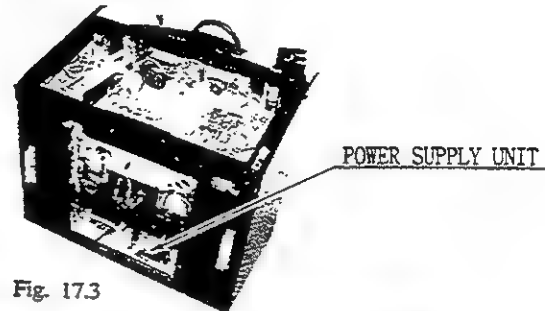

Fig. 17.3
- ② By referring to Section 6, remove the Front Cabi from the PTV (Fig. 17.3).